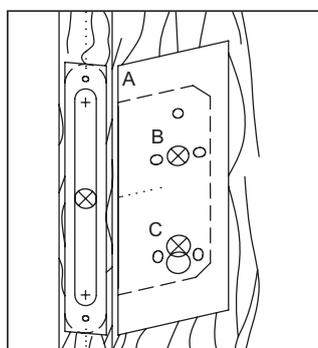

fig. 3
3. Cut the Template along dotted line and place on the door, using the dotted as guide ensure template position is correct see fig 3.